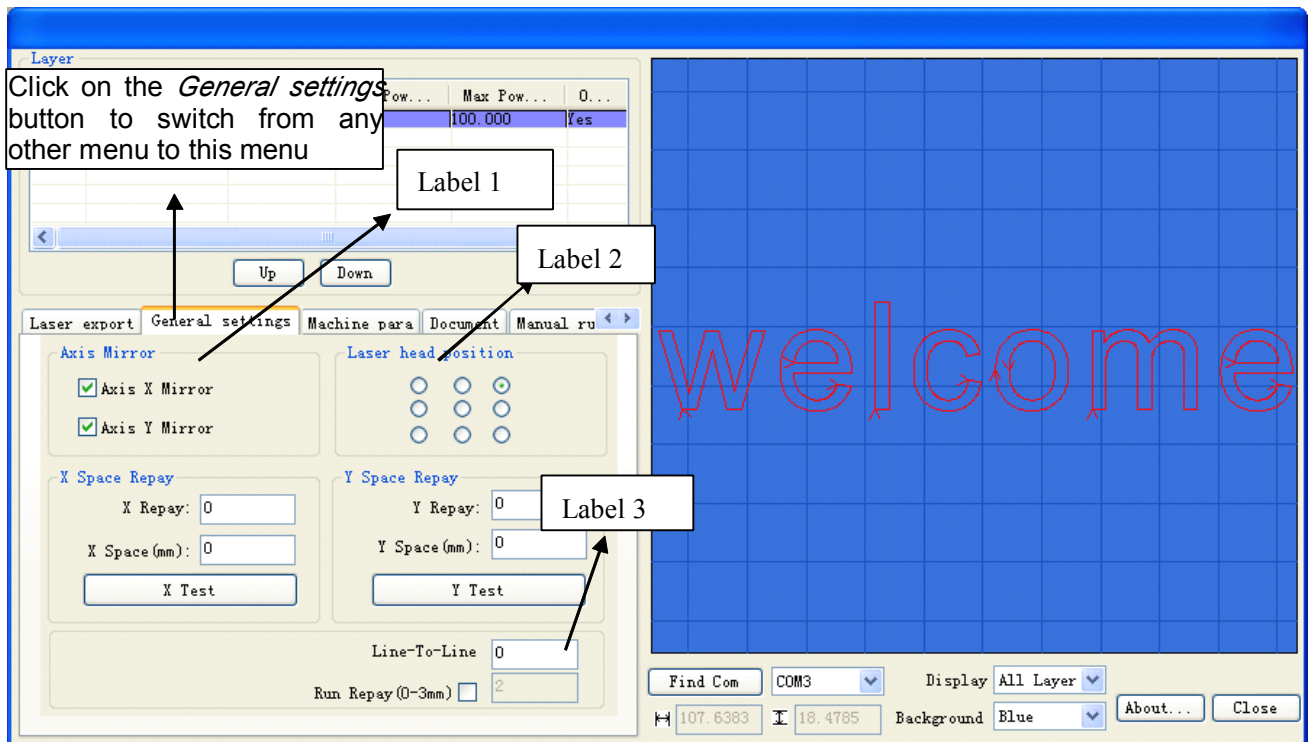

Figure 1-41
(1) Axis Mirror (as shown in Label 1 in Figure 1-41)
(2) Laser head (as shown in Label 2 in Figure 1-41)
Note: You must ensure correct *limit position* settings (as shown in Label 1 in Figure 1-41).
(3) *Line-to-line precision (0-2mm)* (as shown in Label 3 in Figure 1-41) settings